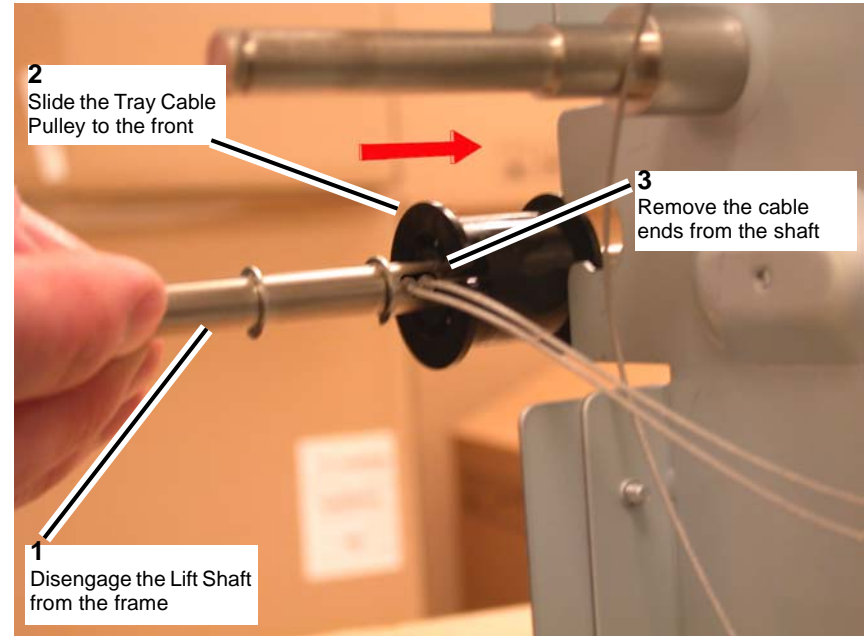

Figure 4 Releasing the Cable ends from the Lift Shaft
5. When both sections of the cable are slack, disengage the Lift Shaft from the frame and slide the Tray Cable Pulley to the front of the Lift Shaft to release the Rear Lift Cable ends that are trapped in the pocket underneath the Tray Cable Pulley (Figure 4).